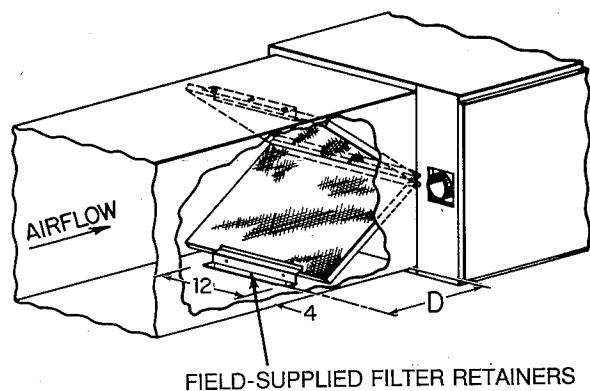
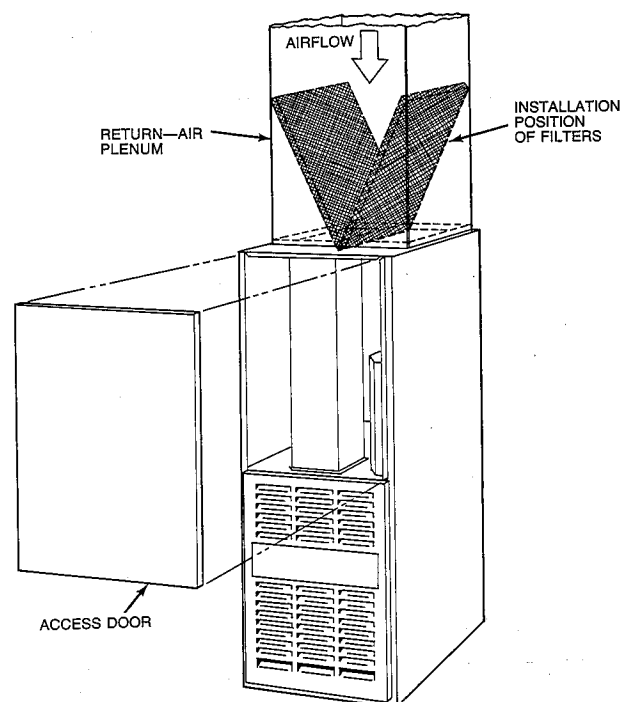

Fig. 8 —Horizontal Filter Arrangement A82173
Fig. 9 —Position of Filters A88486
- a. Install field-supplied filter retainers as indicated in Fig. 8 and Table 4 before connecting return-air duct to furnace.
The 2 factory-supplied filters are shipped in the blower compartment. After the return-air duct has been connected to the furnace, install the filters in a V-formation inside the return-air plenum. See Fig. 8 and Table 4 for horizontal applications. Horizontal filter retainers must be field-supplied. See Fig. 9 for downflow applications.